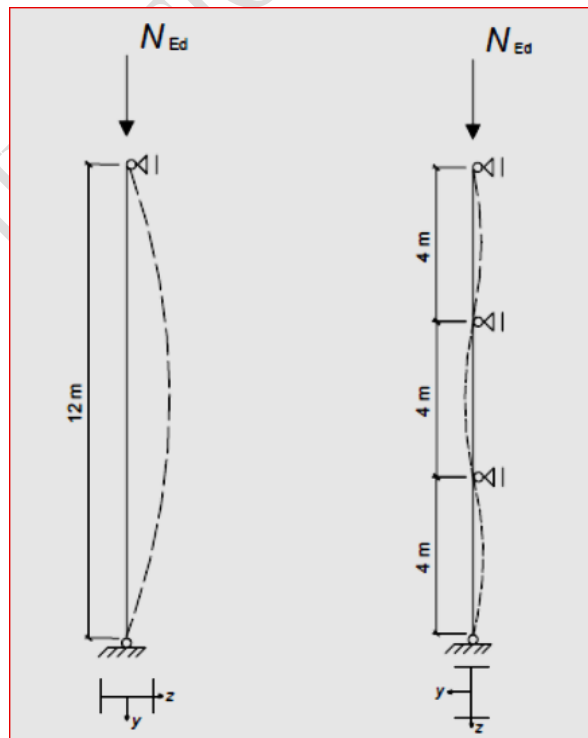

Figure Q2
- b) A column is laterally restrained every 4 m against buckling about the minor axis (z-z) but has no intermediate restraints against buckling about the major axis (y-y) as shown in Figure Q2. The column is considered to be pinned in both directions.